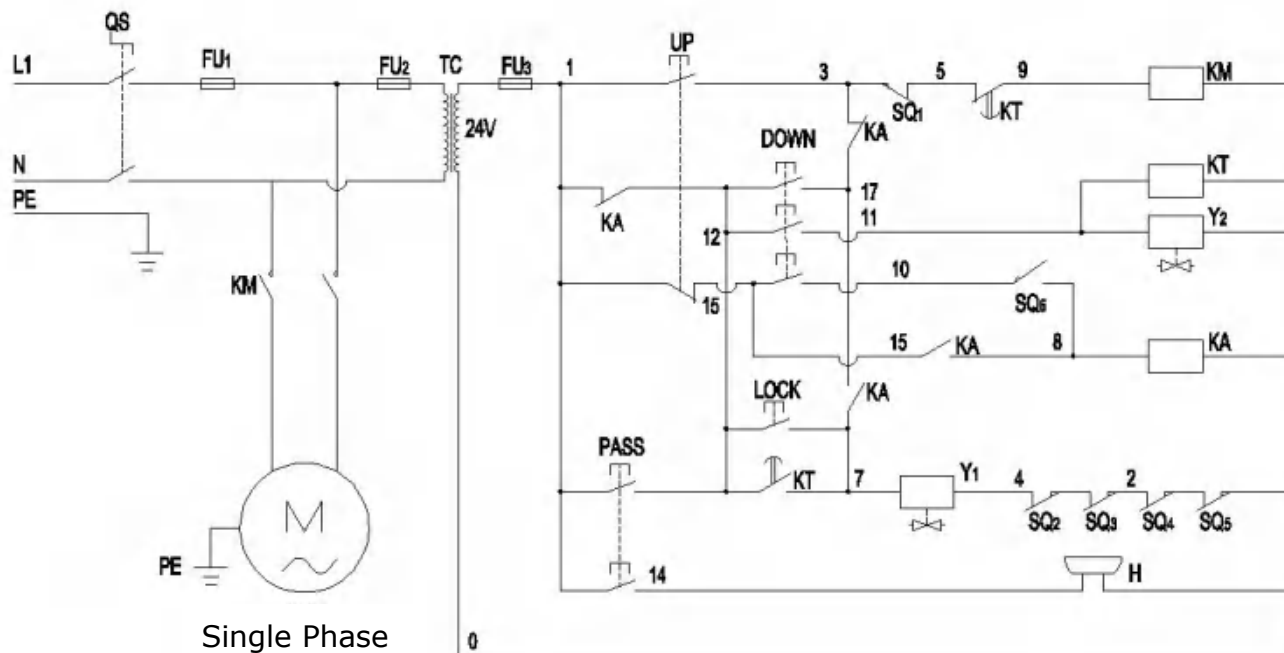

Fig. 47
6.3、220V Wire connection and circuit diagram. Fig.47